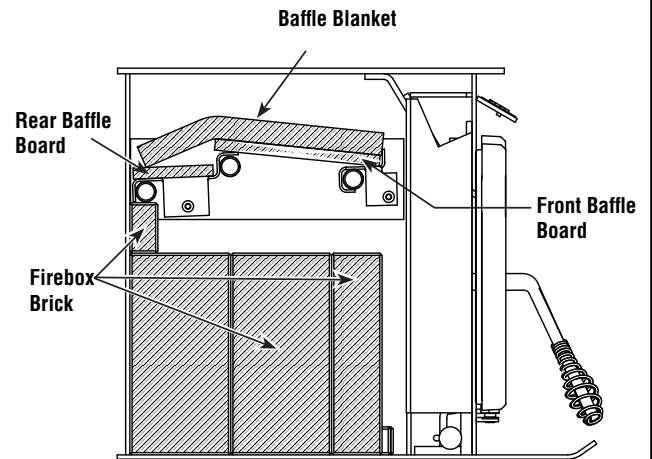

Figure 16A
4. The final step of the baffle board & baffle blanket installation will be installing the front baffle boards. The front baffle boards will be the two remaining baffle boards which are the larger two baffle boards of the four baffle board kit. They will be installed with the 7-3/8" dimension from the front to rear of the firebox. Start by setting the back side of the board on the rear baffle making sure that it is placed far enough back to lift up and onto the front baffle. Next you will place the front edge of the front baffle boards on the top side of the front baffle and slide them towards the firebox front until it stops against the front baffle edge. You will do this with each front baffle board with one to the right side of the firebox and one to the left side of the firebox. Confirm that the baffle blanket is directly on top of the baffle boards and that it does not protrude beyond the front baffle or front baffle boards as shown in **Figure 16A** (also see note above).